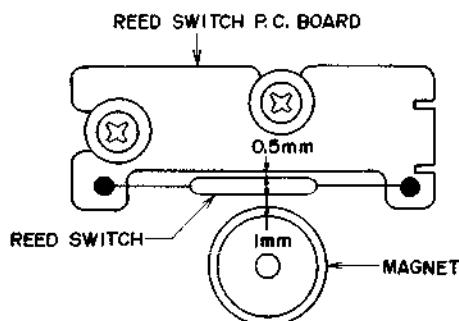

Fig. 5
4. REED SWITCH POSITION ADJUSTMENT (Refer to Fig. 5)
Adjust reed switch as shown in Fig. 5.